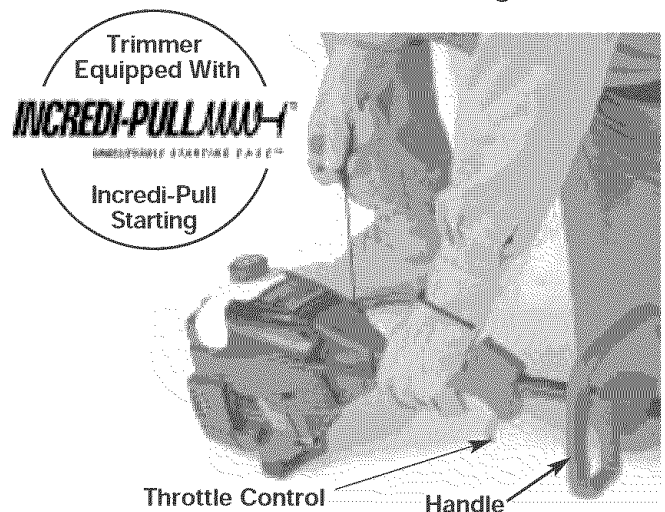

Fig. 5
WARNING: Avoid accidental starting. Make sure you are in the starting position when pulling the starter rope (Fig. 5). To avoid serious injury, the operator and unit must be in a stable position while starting.
5. Crouch in the starting position and **do not squeeze the throttle control** (Fig. 5). Pull the starter rope out with a **controlled and steady motion** up to 10 times, until the engine starts.